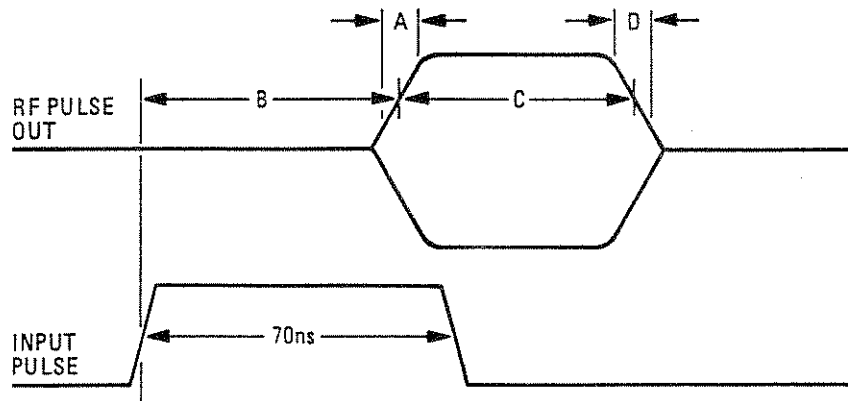

Figure 8. Pulse Performance Parameters
10. Measure the rise time, fall time, pulse delay, and pulse width compression as shown in Figure 8. Note that pulse width compression is the difference in width between the input pulse and the resulting RF pulse.
- (A) Rise Time _____ < 10 ns (10 to 90%)
- (D) Fall Time _____ < 10 ns (10 to 90%)
- (B) Pulse Delay Time _____ < 60 ns (10 to 90%)
- (C) Pulse Width Compression 50% _____ < 20 ns (50 to 50%)